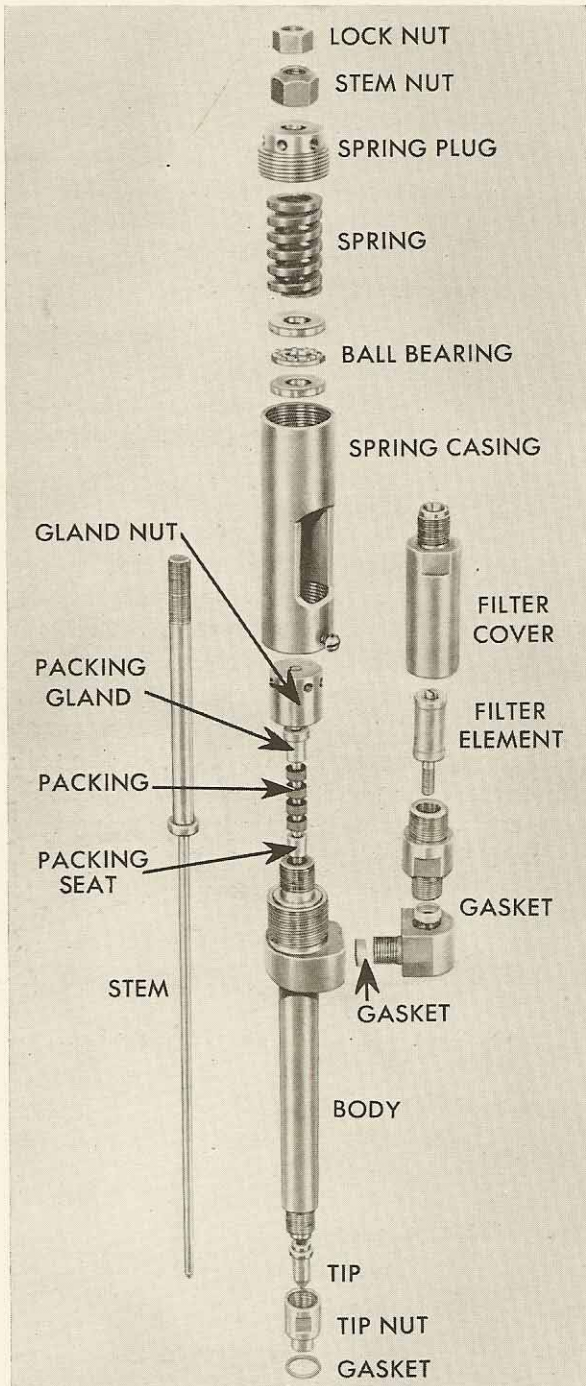

FIGURE 17-1
1. DISASSEMBLY OF SPRAY VALVES: Remove parts in the order as shown in Figure 17-1. When removing the tip from the tip nut